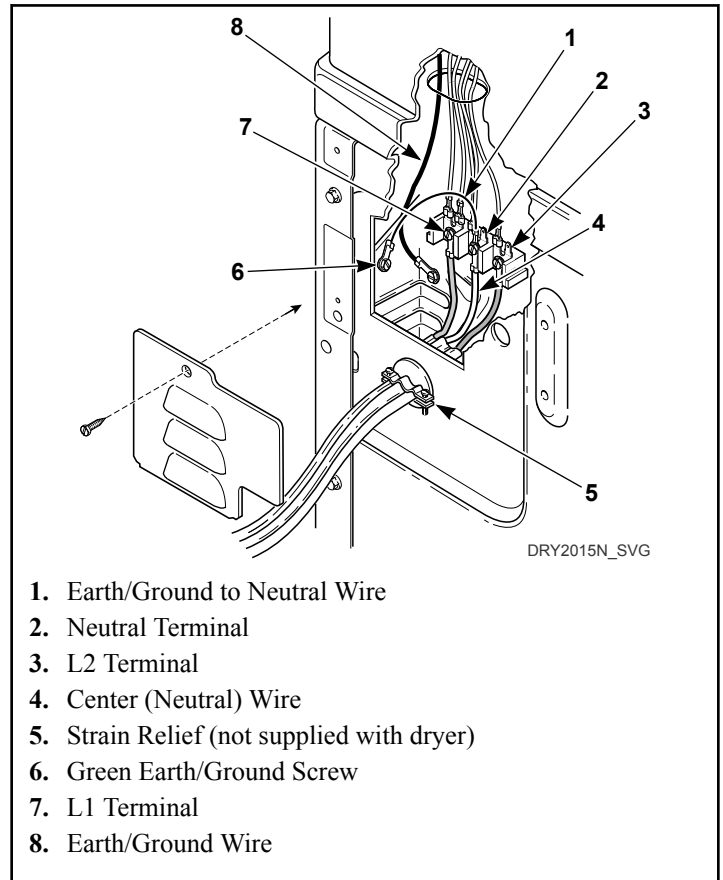

Figure 21
6. Use the three silver screws removed in step 3 to attach the wires from the new power cord and the other end of the green earth/ground wire to the terminal block as shown in Figure 21.